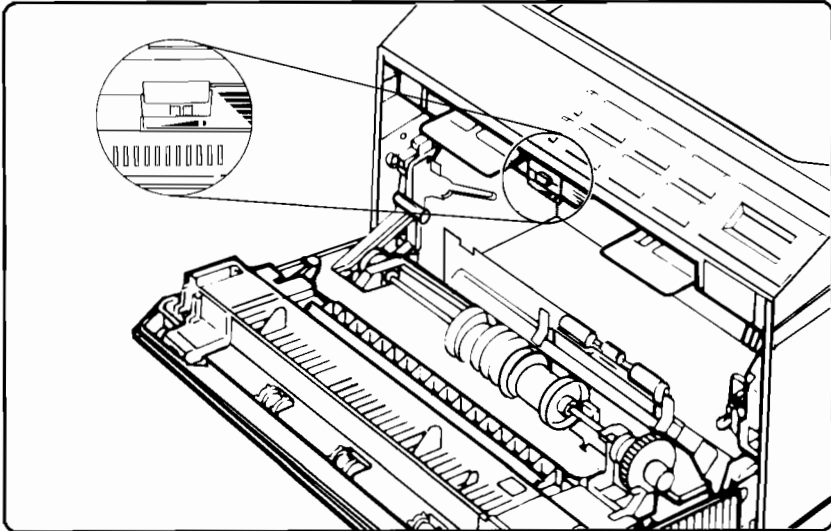

Figure 4-17. Adjusting Print Density
2. Move the Density Slide to the right (to darken print) or to the left (to lighten print). The recommended initial setting is centered in the detented (middle) position (see Figure 4-17).